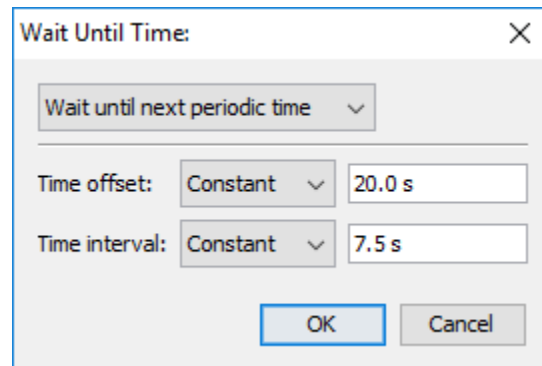

Figure 111. Wait Until Time dialog
2. Click the time to edit the value, which will show the **Wait Until Time** dialog as shown in Figure 111.